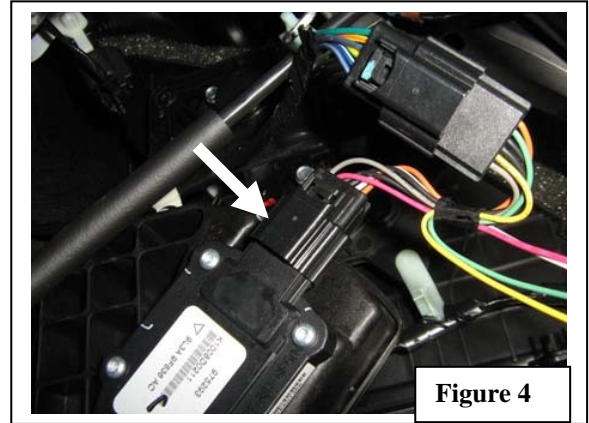

Figure 4
4. Locate the 6 pin **plug and mate connectors** on the Pedal Interface Harness. Remove the accelerator 6-pin connector and apply to mating connector of Pedal Interface Harness. Apply the other connector to the accelerator. **Figure 4**